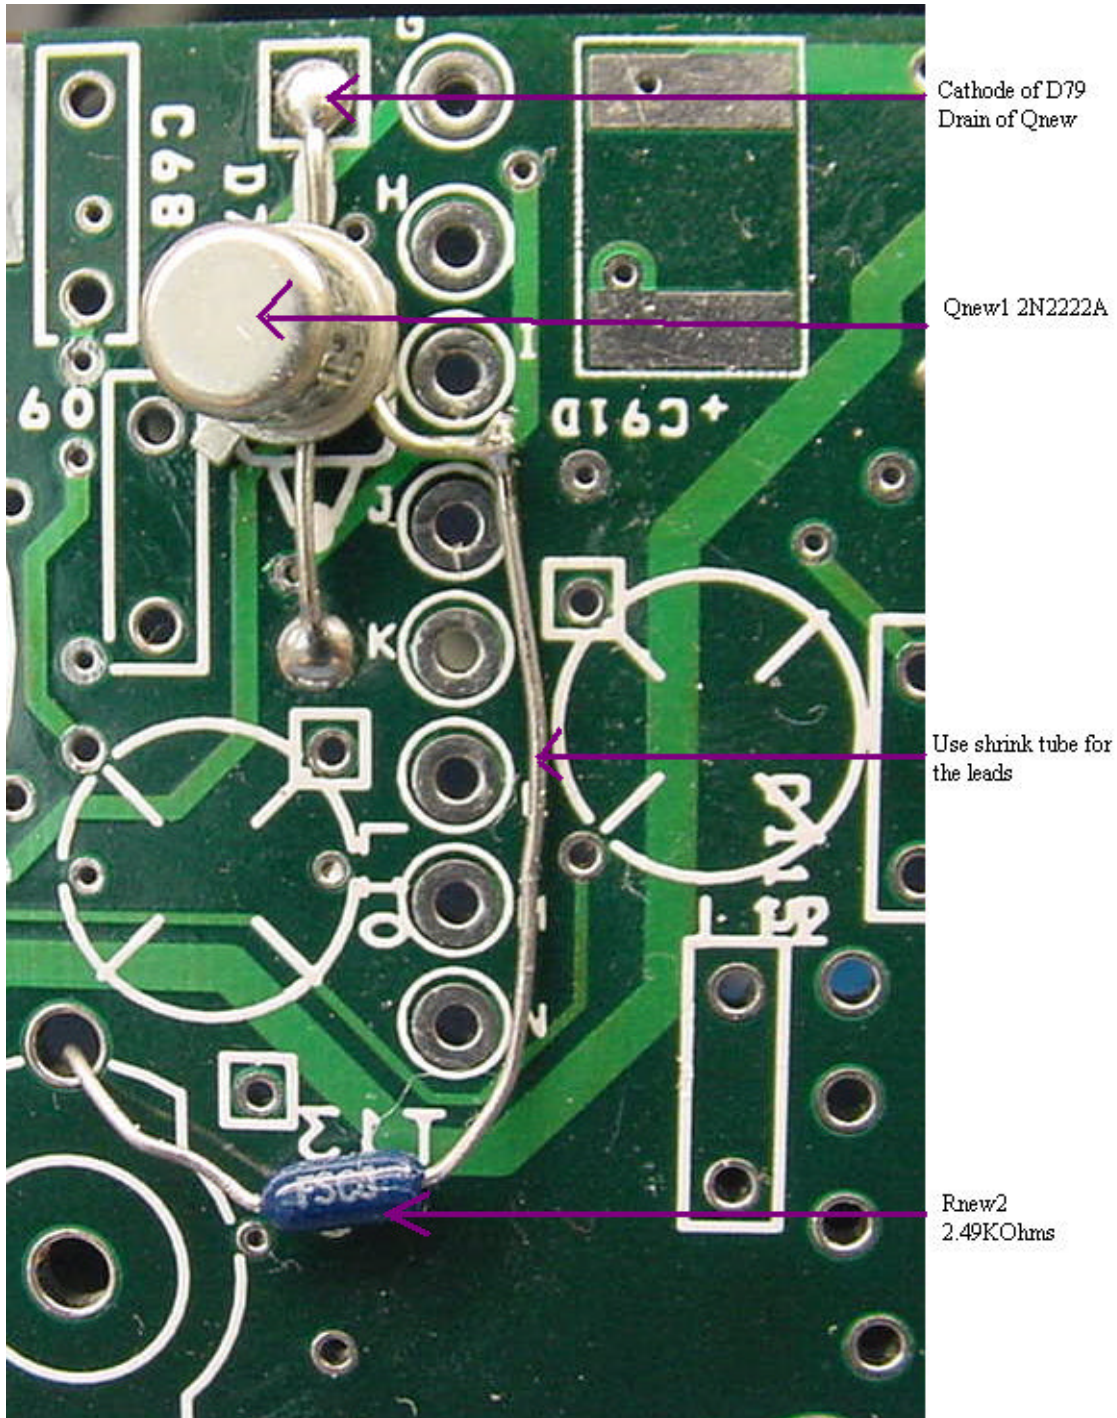

Figure 2: SEP LVPS Top Board Proposed Solution for PR-1005 (view from bottom)
8. Connect a 4.99K $\Omega$  (Rnew1) resistor from C91A (5.1V side) to SYNC of U19 (Figure 2 and 3) (RNC50H4991DS)